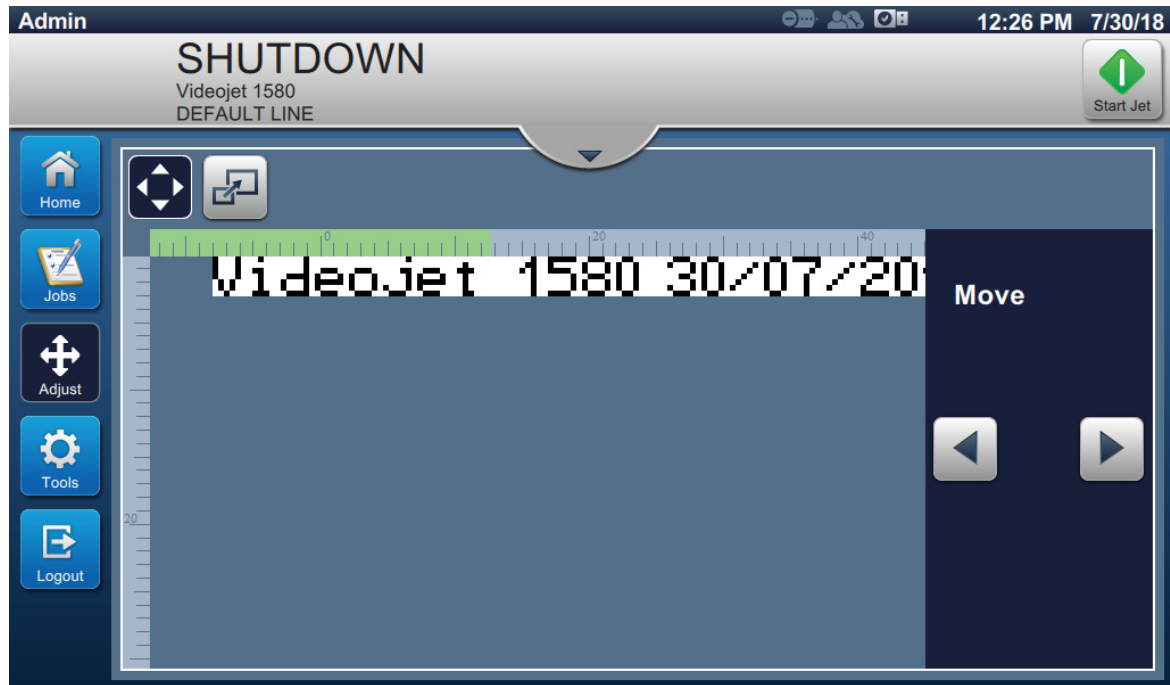

Figure 4-9: Adjust\_Move
1. Touch the  button and the current position divider appears as shown in Figure 4-9.